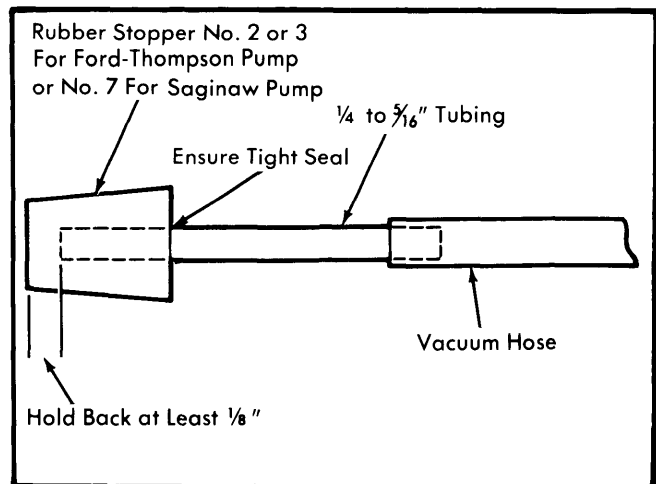

Fig. 1 Air Evacuator Tool
**Devac System** – Fabricate an air evacuator tool as shown in Fig. 1. Make sure that fluid level is correct (add or remove fluid as necessary). Insert rubber stopper of tool tightly into pump filler tube. Connect a length of hose from tool to a vacuum pump. **NOTE** – Do not use engine vacuum. With vacuum applied, allow engine to idle for about 15 minutes. Do not turn steering wheel during this process. Disconnect and remove tool and reinstall filler cap.